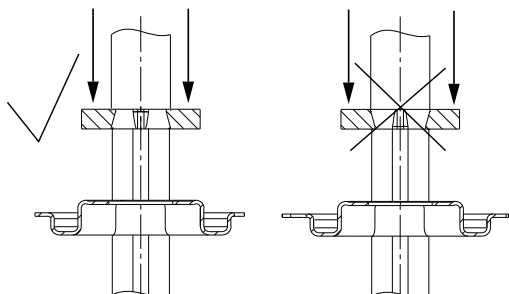

Fig. 25 Fitting the stop ring
5. Fit O-ring (pos. 107) into the rotating shaft seal part (pos. 104). For correct lubricant, see section 3. *Tightening torques and lubricants*
6. Fit retainer (pos. 111) and stop ring (pos. 111a). See fig. 25.